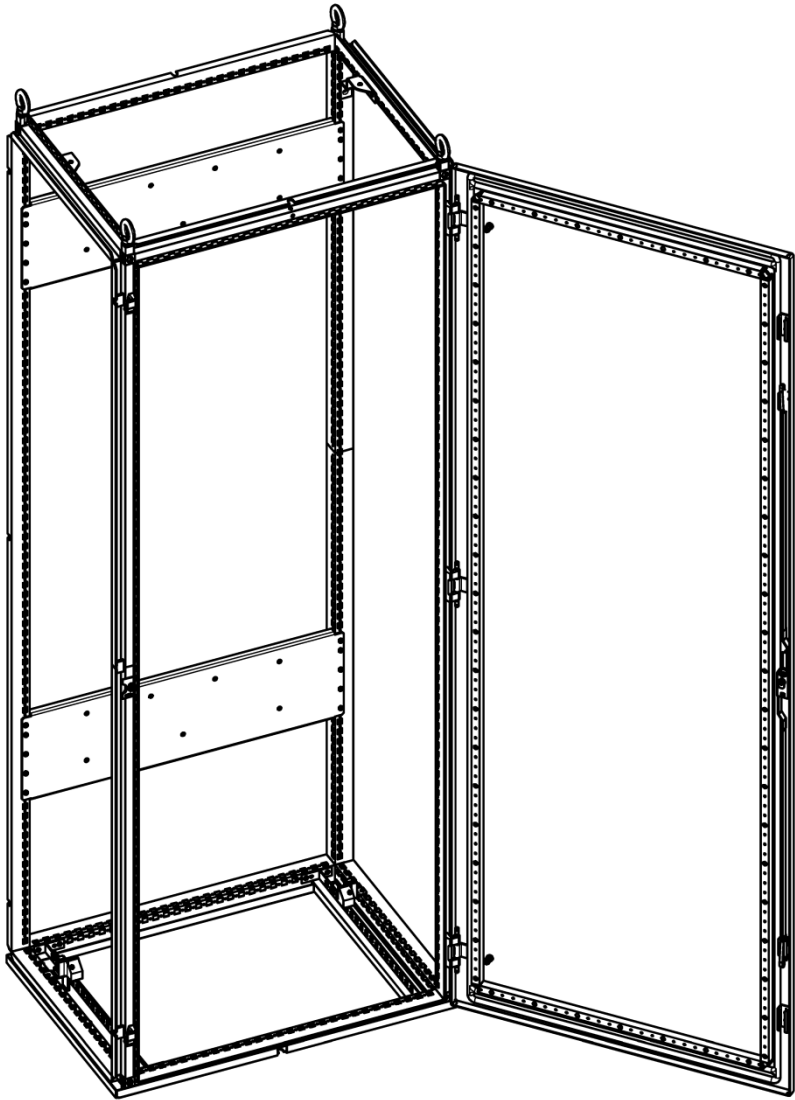

Figure 3-3 Finish mounting supporting plate
- 3) Finish mounting support plate, see Figure 3-3;